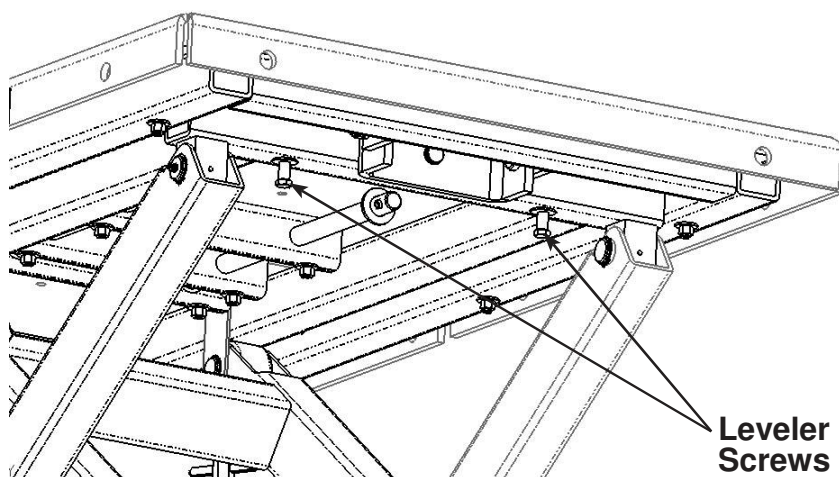

Figure 2
1. Insert leveller screws into sockets (approx. 5 turns). Leveller screws should not project above steel tube or contact platform underside when not in use. See Figure 2 of “Stabilization Feature” section.
If lift is to be used as a stationary work surface for servicing components, two leveller screws (see Figure 2) have been added to help stabilize the platform.